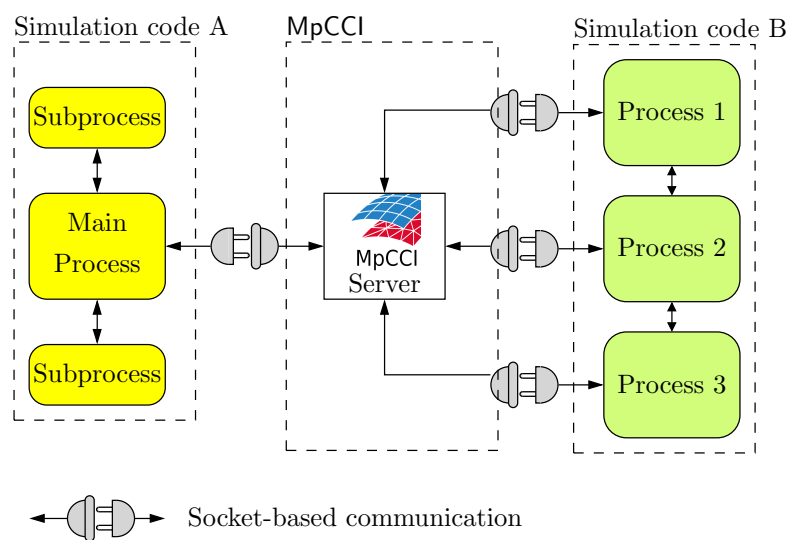

Figure 27: Client-server structure of MpCCI
If codes are coupled without parallel execution, one server is started for communication with each simulation code, see Figure 27 a).
- All data which is exchanged with the simulation code is passed via a main process. This is depicted in Figure 27 b) on the left.
- Each subprocess of a simulation code communicates with the MpCCI server as shown in Figure 27 b) on the right.
In the example sketched in Figure 27 a\) only one port is used for getting the incoming client connection:
For the parallel run of Figure 27 b\) only one port is needed: